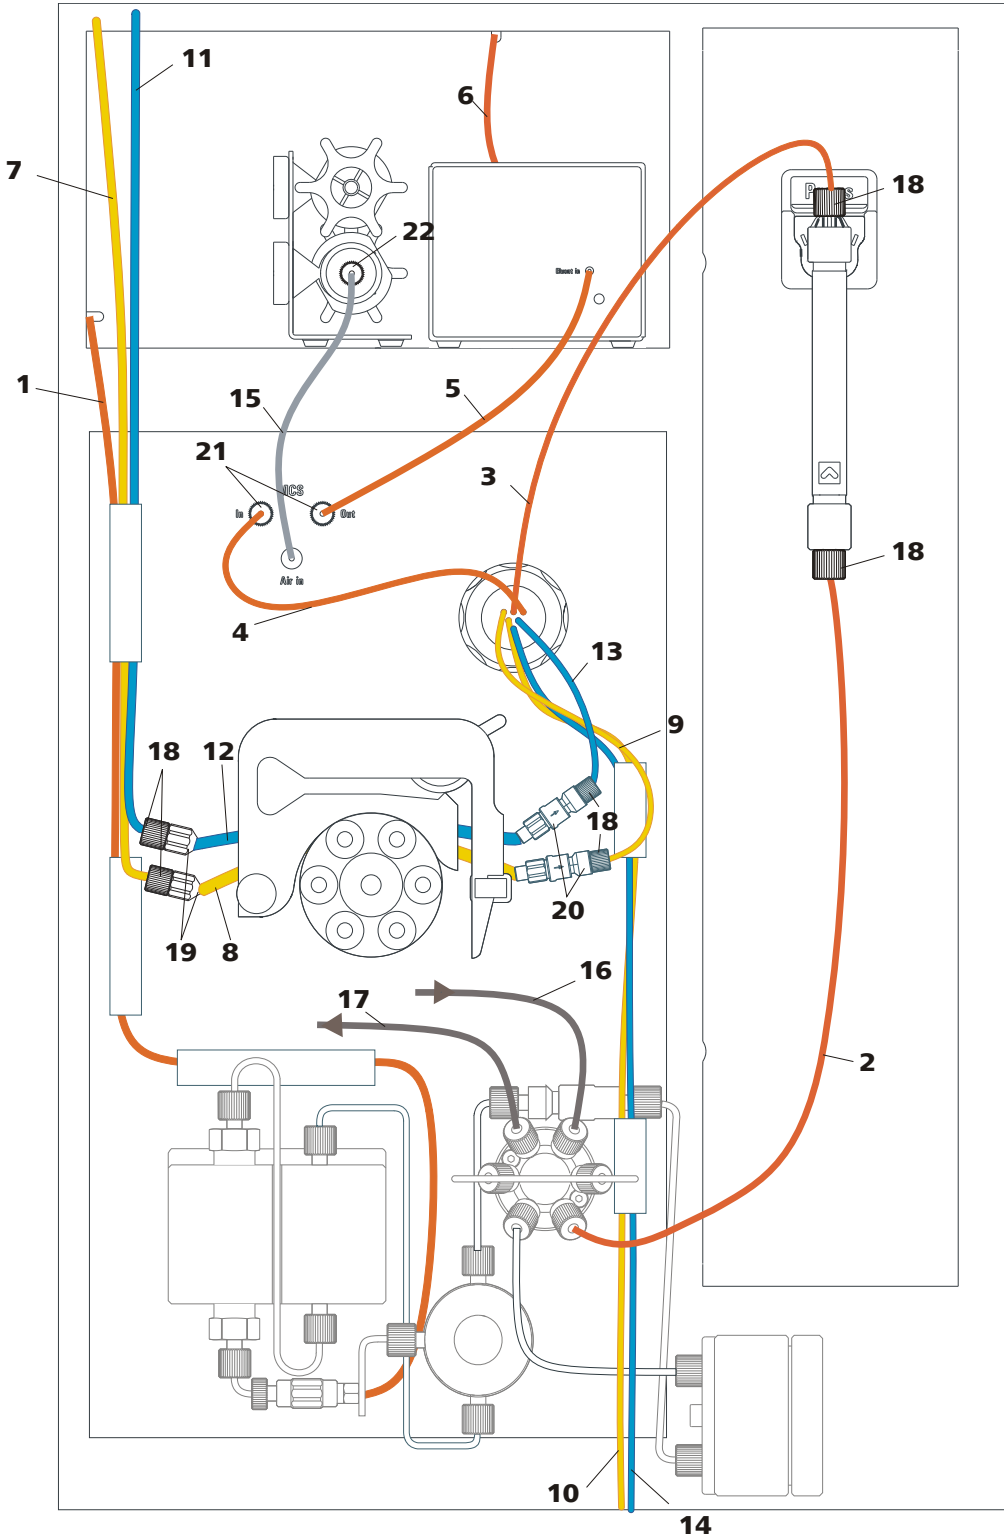

Figure 3 Installation diagram 882 Compact IC plus – Anion – MCS
- an installation diagram (see *Figure 3, page 15*), showing a completely installed 882 Compact IC plus – Anion – MCS.